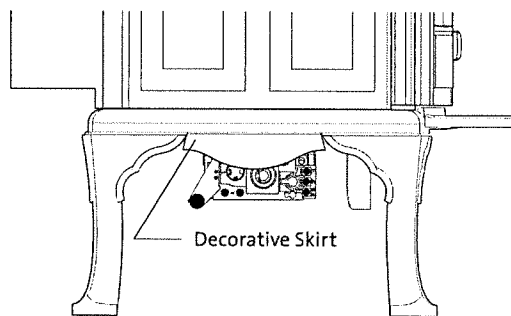

Figure 15. Remove the valve skirt for better access.
13. Replace the burner tube (19), front log support (18) and air divider (21), be sure to secure with the two 1/4" hex head screws.
14. Install the log set (36), embers and glass assembly (16). See page 18 for log set placement.
15. Reinstall the top panel (6) and top griddle (7). Be sure to secure with set screws from step 3.
16. Locate the decorative cast iron skirt (4) between the left front and rear legs. Use a 13 mm wrench or socket to remove the bolt that secures the skirt to the base of the stove to improve access to the valve. See Fig. 15.
NOTE: IF THE OPTIONAL BLOWER KIT (# 129161) IS TO BE INSTALLED ON THE STOVE AT THE TIME OF THE INSTALLATION OR IN THE FUTURE, THE GAS SUPPLY LINE SHOULD BE INSTALLED AS CLOSE TO THE FLOOR AS POSSIBLE. USE OF A 90° ELBOW DIRECTLY OFF THE VALVE TO ALLOW FOR ADEQUATE CLEARANCE FOR THE BLOWER. See Figure 15.